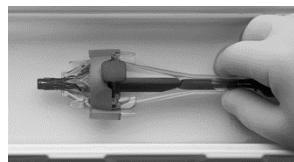

Figure 32
6. Insert the catheter tip guide tube completely into the distal end of the inflow cone (Figure 32). Inspect the outflow struts of the valve and if needed, manually manipulate so they are evenly spaced and the bioprostheses frame paddles are approximately 180° apart.